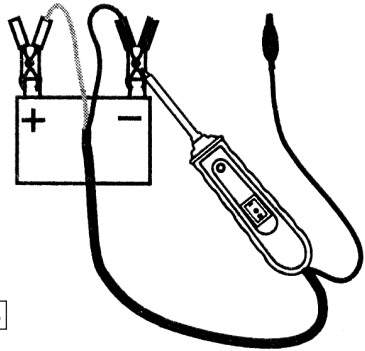

Fig.3
3.3 POLARITY TESTING. (See Fig.3)